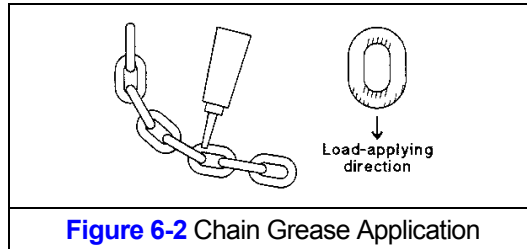

Figure 6-2 Chain Grease Application
- Apply Harrington Hoist, Inc. lubricating grease (Part No. ER1BS1951) or an equivalent to industrial general lithium grease, NLGI No. 0, to the bearing surfaces of the load chain links as indicated by the shaded areas in Figure 6-2. Also apply the grease to the areas of the load chain (shaded areas in Figure 6-2) that contact the load sheave. Insure that the grease is applied to the contact areas in the load sheave pockets.